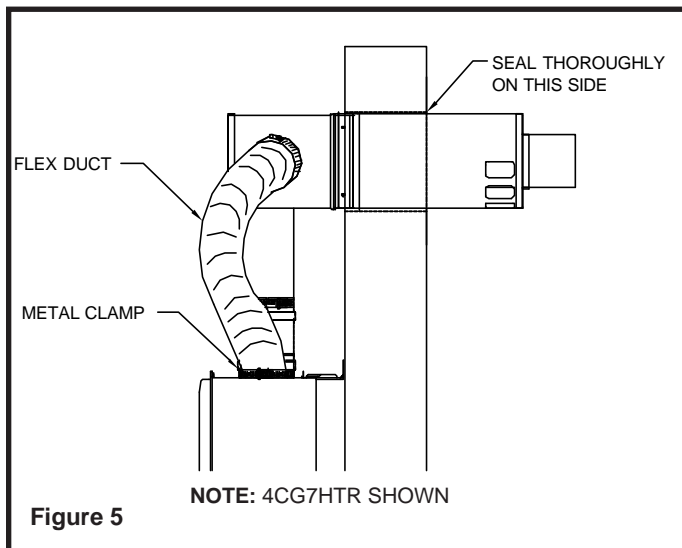

Figure 5
- Using a short section of flexible metal duct, connect the duct to the 4" diameter collar that protrudes from 90 degree vent assembly, using metal clamps or other suitable means. Connect the other end of the duct to the appliance combustion air intake collar. (See **Figure 5**)
- Using a general purpose silicone sealant approved for outdoor use, apply an adequate bead of sealant around the vent and exterior of the home. Failure to properly seal this wall penetration will result in long term damage due to weather conditions. (See **Figure 5**).